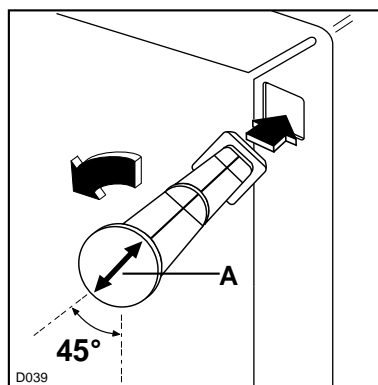

Fig 3
The plastic bag containing all relevant documentation also contains two rear wall spacers to be fitted into special slots on the back of the appliance. Fit the spacers into the slots, taking care to ensure that the arrow (A) is positioned as shown in Figure 3.